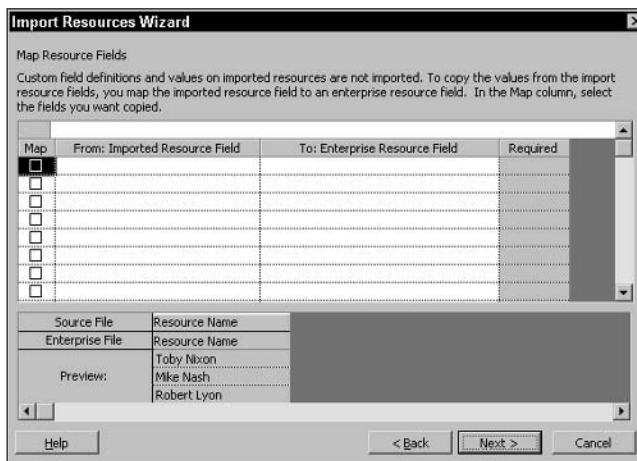

Figure 19-28: Map custom resource fields to enterprise resource fields.
4. If you've set up any custom fields for resources, complete the Map Resource Fields page of the wizard, as shown in Figure 19-28. Map custom fields that you've set up for resources to enterprise resource fields.